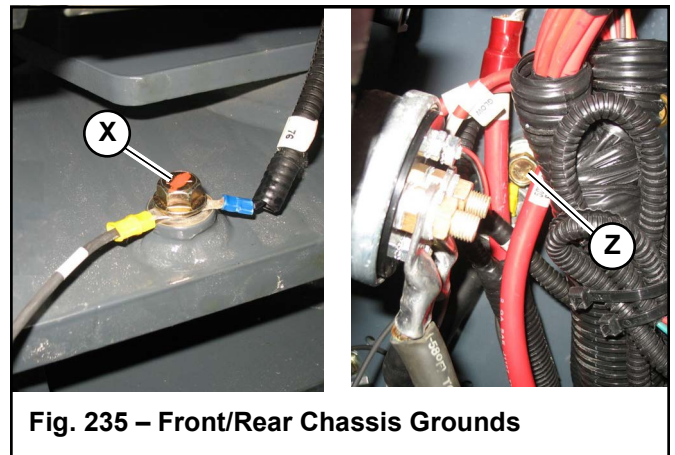

Fig. 235 – Front/Rear Chassis Grounds
Front chassis ground (X, Fig. 235) is located under the machine near the front of rear chassis. Rear chassis ground (Z) is located inside the engine compartment, on the left side in the firewall near behind the battery disconnect switch.